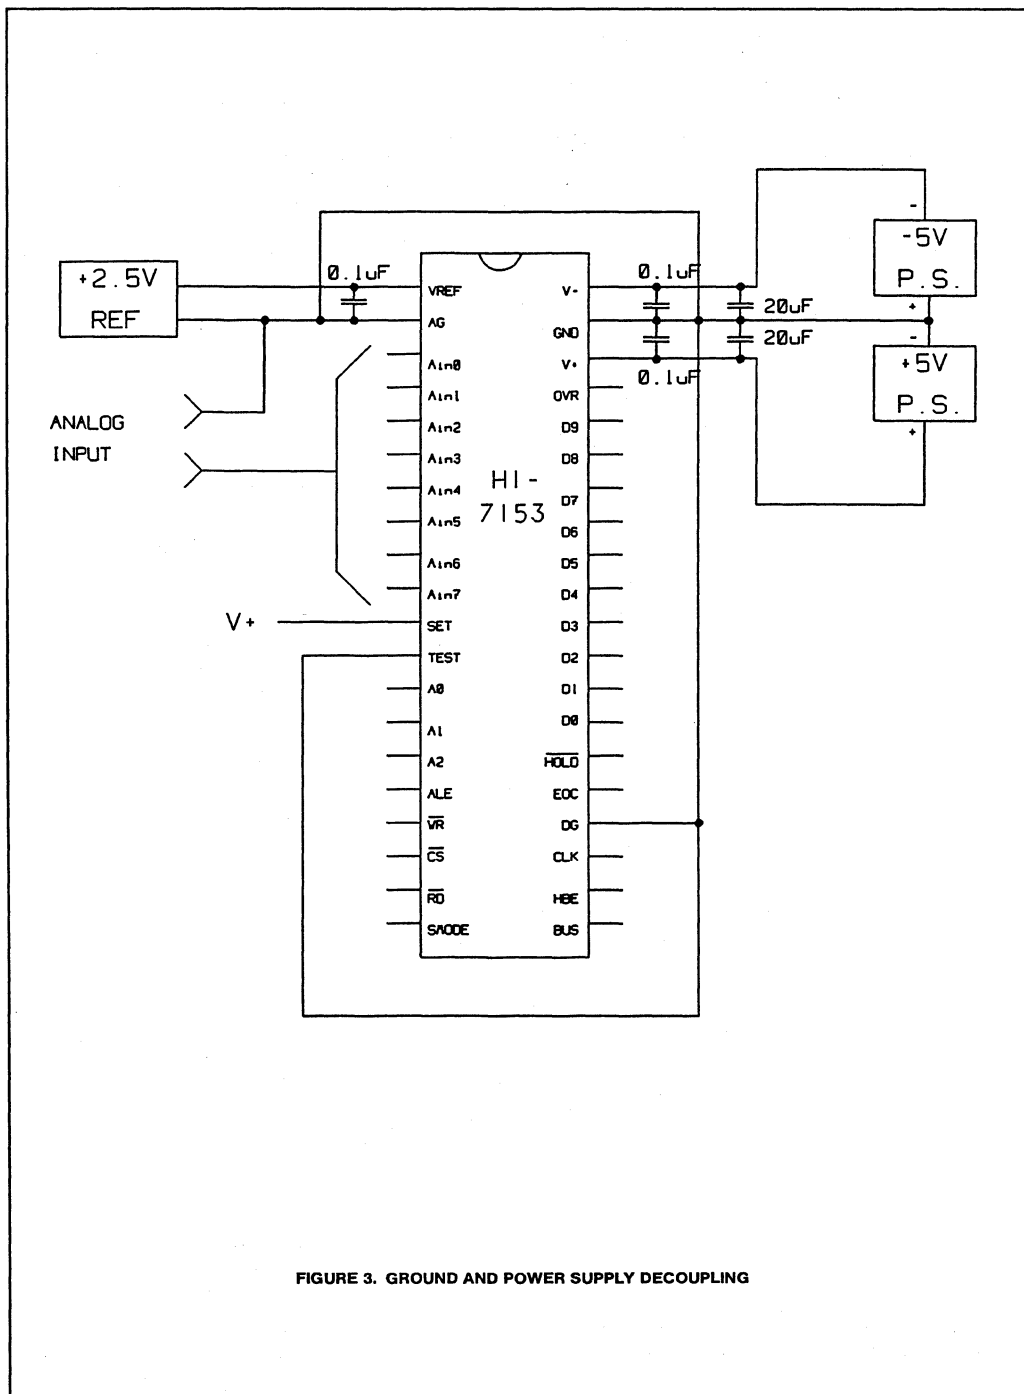

FIGURE 3. GROUND AND POWER SUPPLY DECOUPLING
The HI-7153 has three ground pins (AG, DG, GND) for improved system accuracy. Proper grounding and bypassing is illustrated in Figure 3. The AG pin is a ground pin and is used internally as a reference ground. The reference input and analog input should be referenced to the analog ground (AG) pin. The digital inputs and outputs should be referenced to the digital ground (DG) pin. The GND pin is a return point for the supply current of the comparator array. The comparator array is designed such that this current is approximately constant at all times and does not vary with input voltage. By virtue of the switched capacitor nature of the comparators, it is necessary to hold GND firmly at zero volts at all times. Therefore, the system ground star connection should be located as close to this pin as possible.